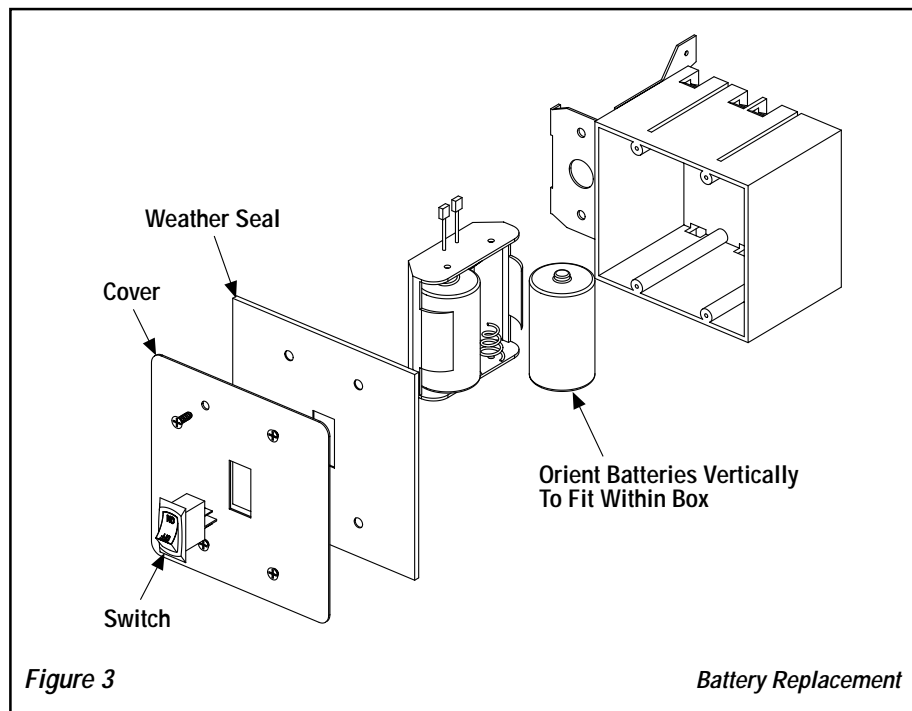

Figure 3
The intermittent ignition system operates on 3 volts provided by two (2) "D" cell batteries. The batteries are located in a pack installed within the J-Box, behind the stainless ON/OFF switch panel. *Refer to Figure 3.*